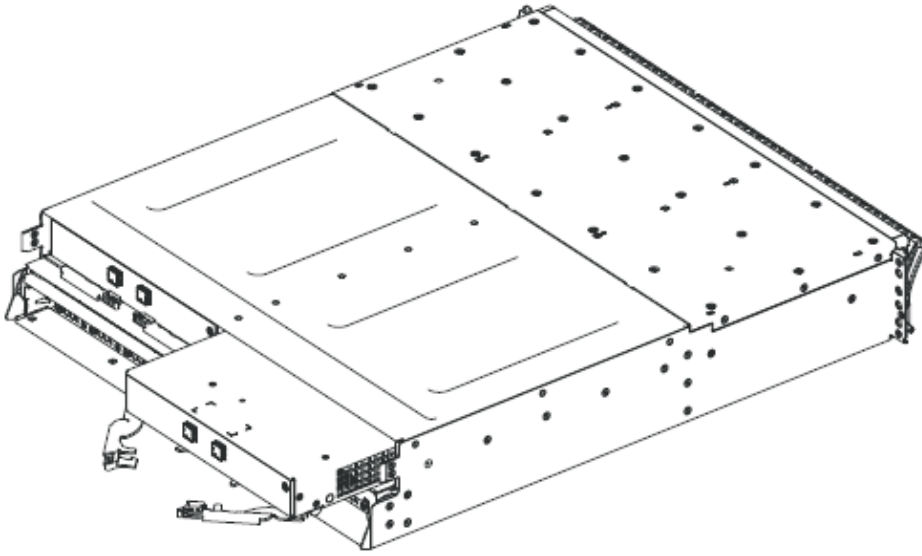

Figure 79. Removing and replacing the Storwize V7000 Gen2 expansion canister
6. Open the two release levers as shown in Figure 79 on page 296. The canister moves out of the slot approximately 0.6 cm (0.25 inch).